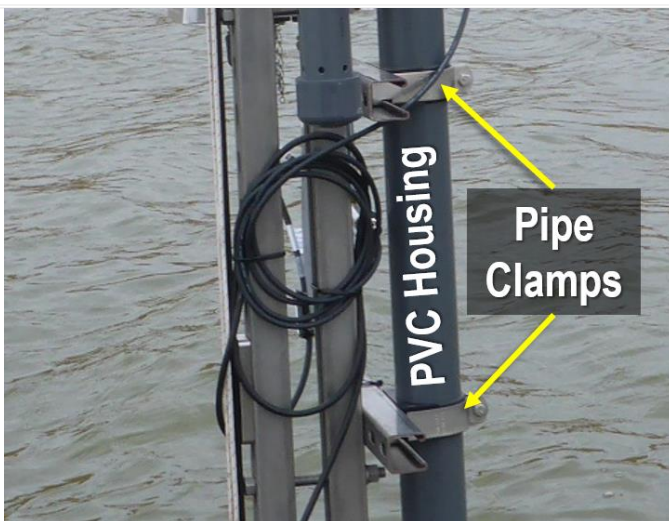

Figure 15. Remove Pipe Clamps to Remove Sensor Housing
STEP 4 | **[OPTIONAL]** Remove the sensor PVC housing from the stream infrastructure from the pipe clamp (Figure 15).